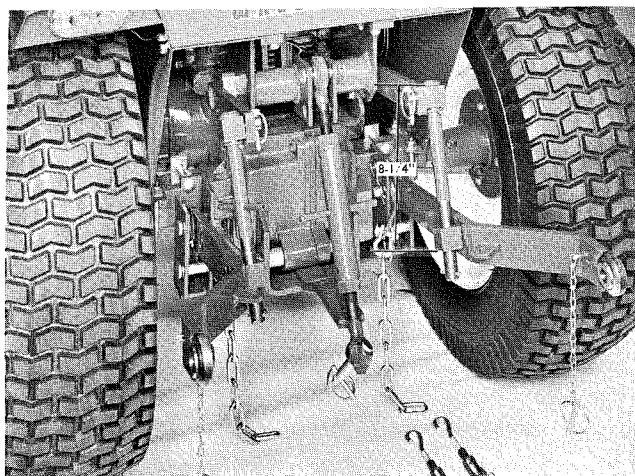
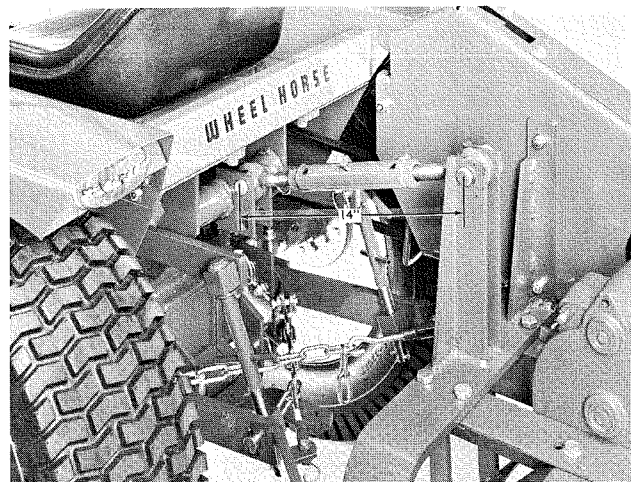

FIGURE 2
FIGURE 3
5. Adjust the length of the R.H. and L.H. hitch lift links to $8\frac{1}{4}$ " from top of upper pivot block to bottom of lower pivot block. Turn the links by their roll pin handles to adjust their length. See Figure 2.
8. Adjust the length of the upper link to 14" between centers of the clevis pins. See Figure 3. The top of the tiller tine shield should be level if properly adjusted. Turn the link by its roll pin handle to adjust its length.
10. Cross the sway chains as shown in Figure 3, and tighten them by adjusting the length of the clevis and chain hooks. Secure the clevis pins with hairpin cotters. NOTE: The front chain brackets must be on the inner side of the lower links and on the same pins as the lower links. See Figure 2.